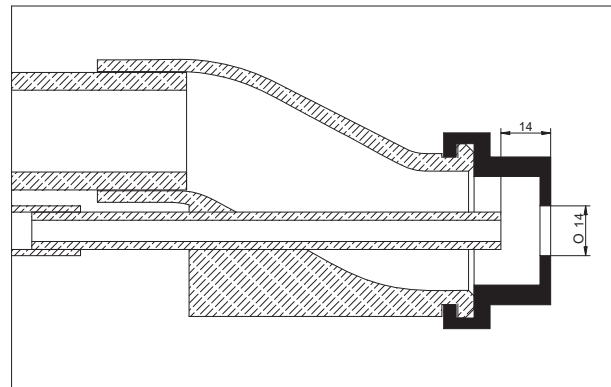

FIG.12
Regulate the water to obtain the required consistency. Different diameters of deflector are available (10,12,14,16,18 mm): the smaller deflectors enable improved nebulisation, and the larger ones are more suited to materials with a larger particle size. For standard plastering materials the deflector with 14 mm hole (ref.9b) is used. However, it is important to measure the distance of the nozzle (ref.9c) from the outlet so that it is the same as the diameter of the deflector (fig.12). If no water is delivered, the machine shuts down. Before restarting the machine, identify the cause of the problem: valve closed, delivery hose bent, tank empty, clogged filter (ref.4).